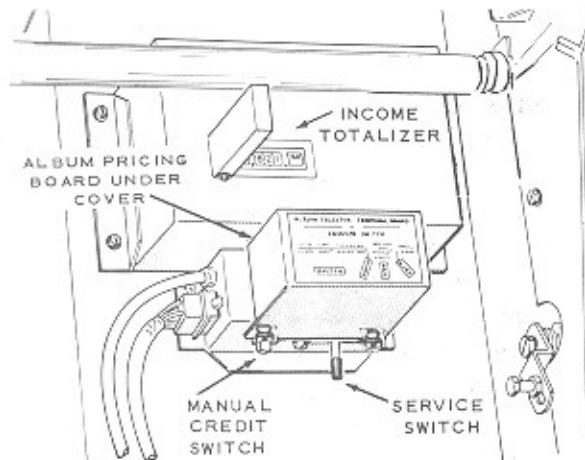
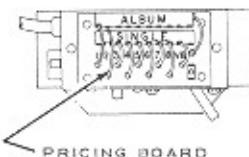

Figure 3. Service Switch & Manual Credit Switch.
Figure 10.
The Service Switch and Manual Credit Switch Assembly (together with the Album Selector Terminal Board) is mounted on the right hand side of the upper cabinet, to the right of the mechanism as shown in Figure 3.
Loosen—do not remove two (2) thumb nuts to release the album terminal board cover, *Figure 3*. The taper tab corresponding to the number group *Figure 10*, is connected for Album Play and conforms to the Pricing Tab set-up on the Electrical Selector. *NOTE: Taper tabs 1 and 2 are permanently soldered in place for "Album Play".*